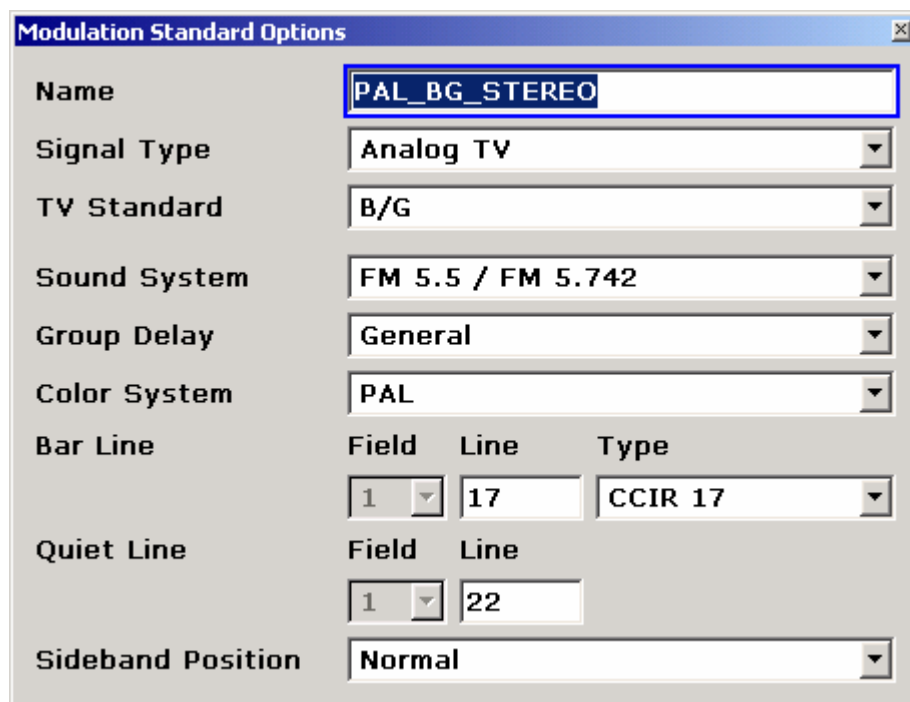
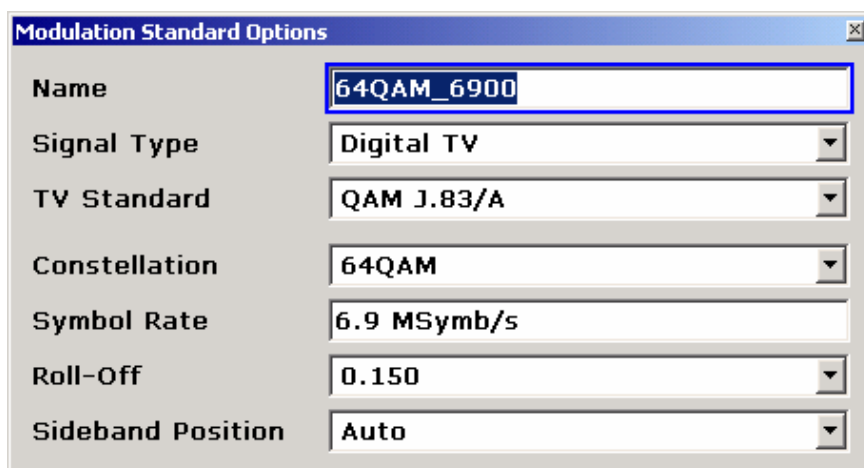

Fig. 2-62 **Modulation Standard Options** dialog box for analog TV
Fig. 2-63 **Modulation Standard Options** dialog box for digital TV
For detailed information on channel tables refer to section Channel tables, for modulation standards refer to section Modulation standards. A detailed example is provided in section Example: Creating a channel table. Fig. 2-60 gives an example of a channel table that references the modulation standard "PAL\_BG\_STEREO". Fig. 2-62 shows that modulation standard.
Most important when dealing with modulation standards is the order of the parameters. Modulation standards (see Fig. 2-62) have always to be created and edited from top to bottom of the **Modulation Standard Options** dialog box. The most important parameters are located at the top of the dialog box. For example, changing the signal type from **Analog TV** to **Digital TV** also alters the complete set of parameters below. Whereas the modulation technique for transmitting the color information is essential in analog TV systems (see **Color System** in Fig. 2-62), it does not exist for digital TV systems. The constellation instead is crucial in digital TV systems (see Fig. 2-63). For that reason the Cable TV Measurements option automatically guides you through the whole process of creating a new modulation standard and only confronts you with mandatory parameters.
For analog TV the **Modulations Standard Options** dialog box (see Fig. 2-62) is structured as follows:
- The channel table references modulation standards by their **Name**. Its name (see Fig. 2-63) should comprise information about the used TV standard, the color system and the sound system, e.g. "PAL\_BG\_STEREO".
- The channel table references modulation standards by their **Name**. Its name (see Fig. 2-63) should comprise information about the used constellation and the symbol rate, e.g. "64QAM\_6900".